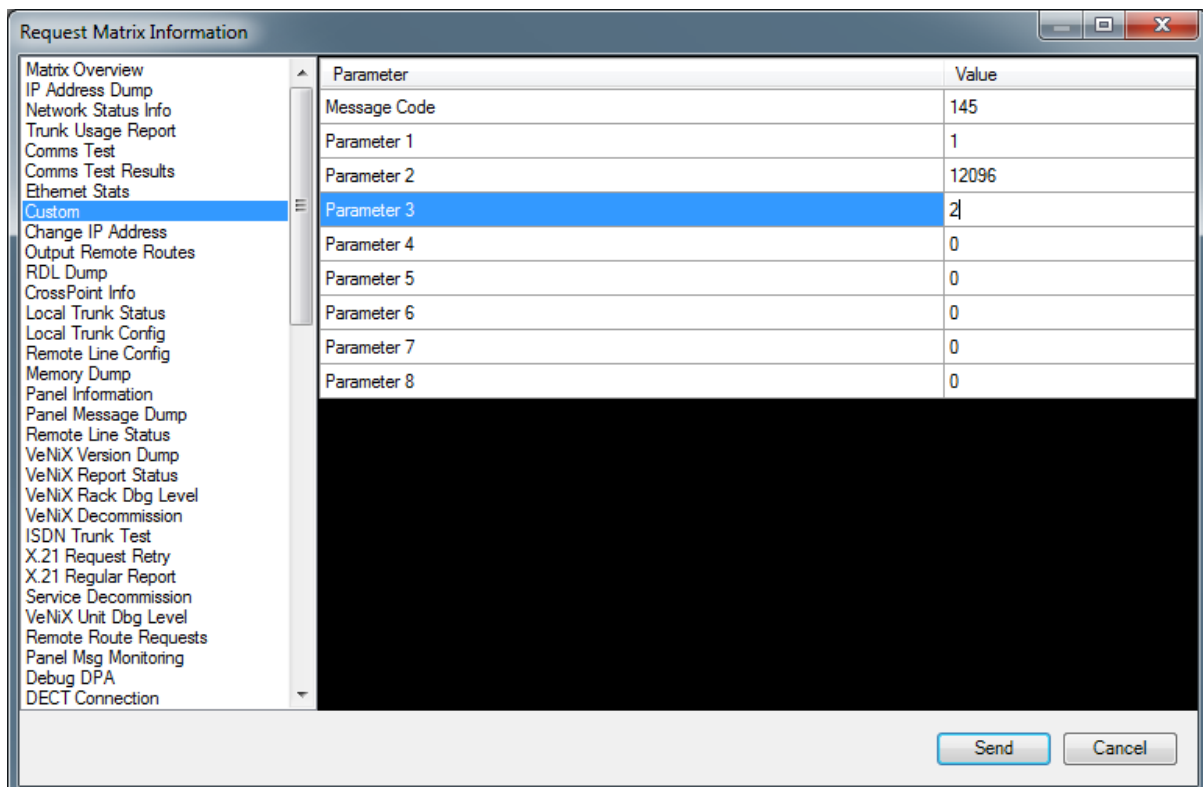

Figure 20: Setting the matrix type
3. Click **Request info**. In the dialog (see **Figure 20: Setting the matrix type**), enter the following custom command: